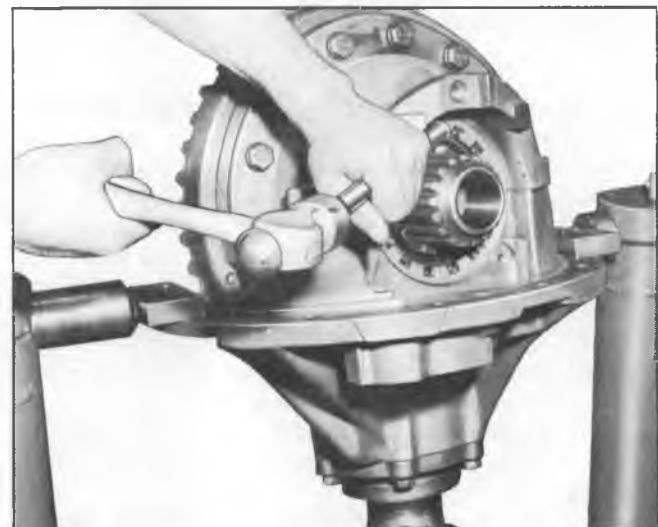

Fig. 28J--Tightening Differential Left Adjusting Nut Using Drift
1. Loosen right differential adjusting nut and tighten left adjusting nut. Use Tool J-0972 on the right side (fig. 27J) and a drift and hammer on the left side (fig. 28J).